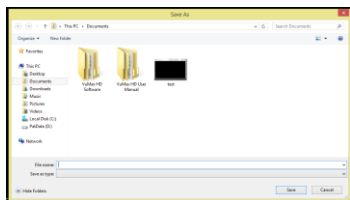

Fig. 11 'Save As' Window
⑦ **Save As:** Upon selecting the 'Save Screenshot' button, a Windows 'Save As' screen (Fig. 11) will be displayed. Navigate through the folders to select a destination folder for saving the patient's saved A-Scan. Note that a 'File Name' is required for saving the document.